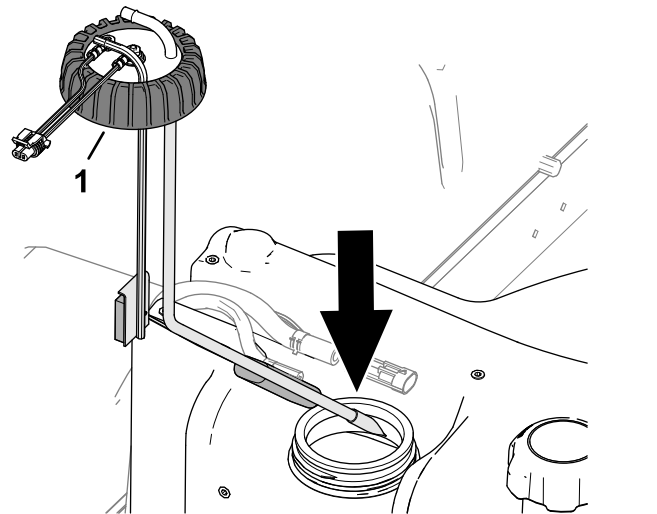

Figure 123
2. Carefully assemble the fuel pick-up tube and float into the fuel tank (Figure 123).